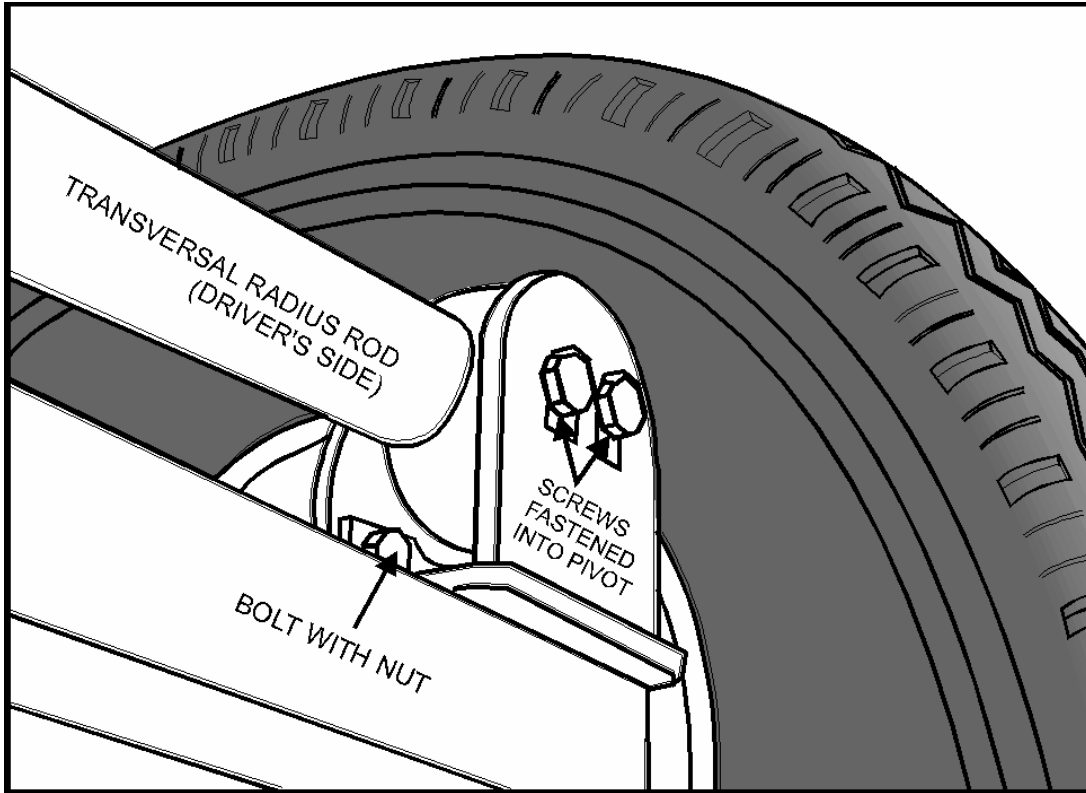

FIGURE 8 - VIEW FROM FRONT
1. Identify on a similar type of assembly but this time located at the other extremity of transversal radius rod (driver's side), the two bolts (with nuts) fastening the plate-pivot assembly of transversal radius rod to its support (refer to figure 8).